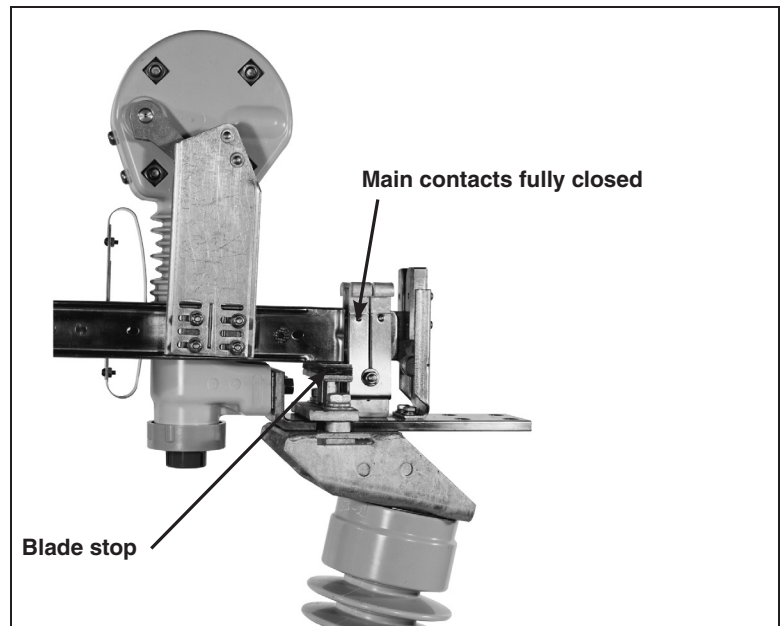

Figure 31. Check that the blade is fully closed.
- (a) With the operating handle as far as it will go in the closing direction, all main contacts of the interrupter switch are fully closed with the blades against their blade stops. See Figure 31.